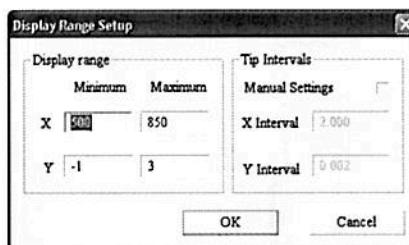

Fig. 4-12
4. Click on the toolbar to set display parameters (Fig. 4-12).